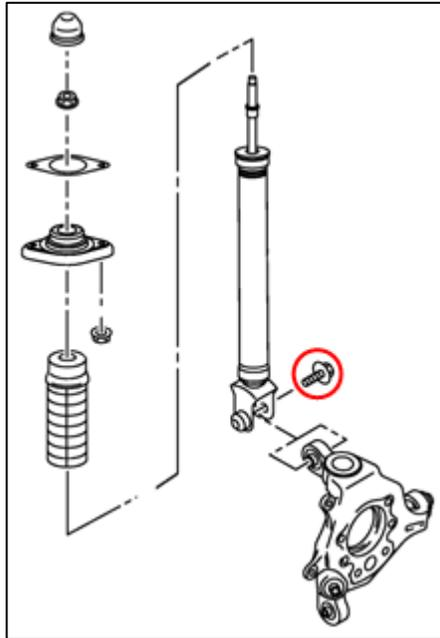

Figure 7
2. Remove the bolt securing the Lower Mount of the Shock Absorber from the Knuckle, circled below in *Figure 7*.